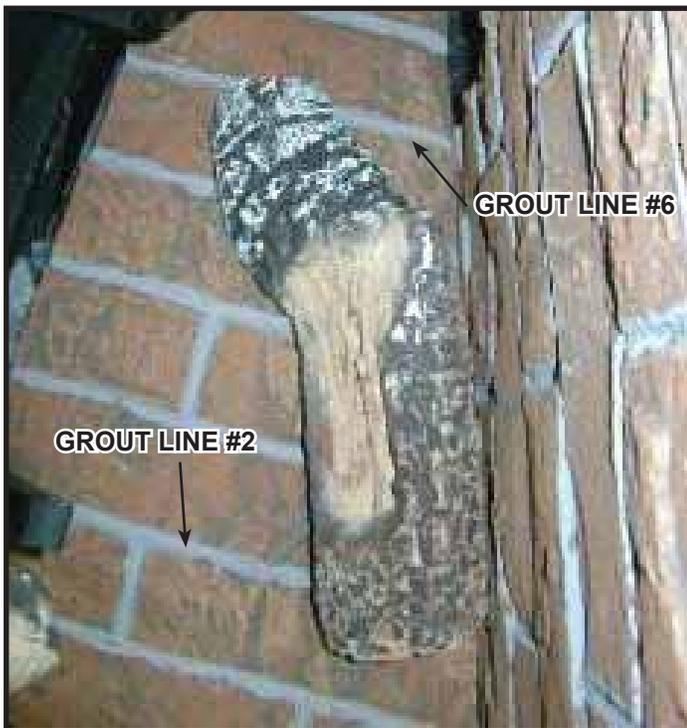

Figure 12.
**Log #7 (2281-707):** Place Log #7 into appliance as shown in Figure 12. The unburned end of the log should rest on the second grout line from the front edge. The burned end of the log should rest on the sixth grout line. The right side of the log should contact the refractory on the right side of the firebox.